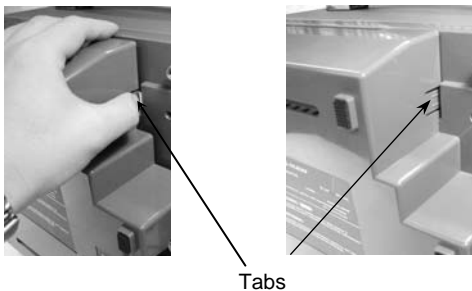

Figure 17. Mounting of BATTERY PACK B (Right Side)
2. Next, align the tabs (upper and lower portions, 2 locations in total), which are located on the right when viewed from the rear of the oscilloscope, with the slots in the oscilloscope and insert them into the slots. (See Figure 17.)